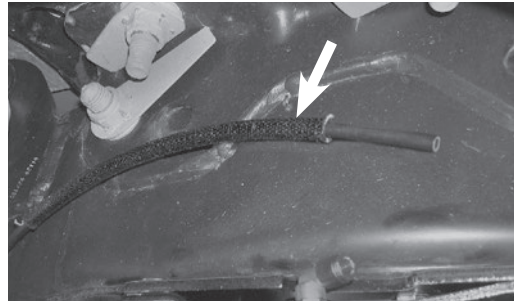

fig. E.1
1. Before installing the passenger's side air line, install the hose heat shield over the hose (Fig. E.1). Once the air line has been inserted into the fitting, align the heat shield so that it is protecting the air line from the exhaust pipe. Secure the air line to the frame with zip ties.